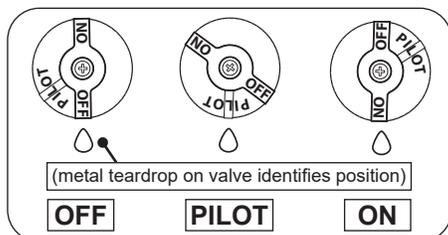

Fig. 24-1 Gas control knob
2. Locate the valve on the unit. Push in the gas control knob slightly and turn clockwise  to **OFF** (Fig. 24-1).
4. Turn the control knob counterclockwise  to **PILOT**. Push the knob **firmly and fully** in and hold. Push the piezo igniter button several times until the pilot lights. Continue to hold the knob in for about one (1) minute after the pilot is lit. Release the knob and it will pop back out. The pilot will remain lit. See Fig. 24-1 and 24-3. If it goes out, repeat steps 2-4. Alternatively, a long-stem match/ long-necked butane lighter can be held near the thermocouple to light the pilot.
1. Ensure the pilot is burning. Turn the control knob counterclockwise  to **ON** (see Fig. 24-1).
To shut down the burner and pilot (total shutdown), press the on/off switch to **OFF (O)**, and push in the control knob slightly and turn clockwise  to **OFF** (see Fig. 24-1 & 2).